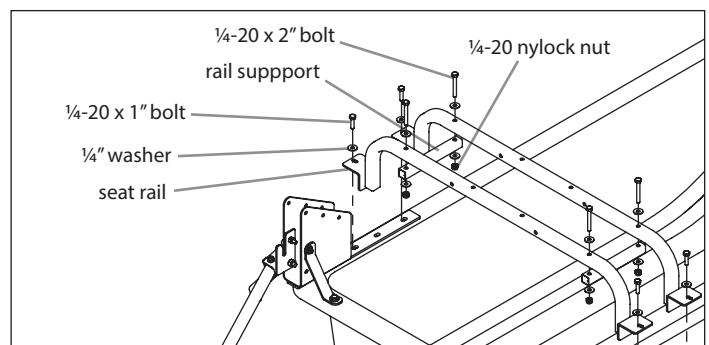

FIGURE 2
3. Attach the (2) seat rails (15033) using (4) 1/4-20 x 1" bolts, (8) 1/4" washers, and (4) 1/4-20 nylock nuts. The seat rail closest to the front of the sled will use the last slotted hole on the spacer plate (11631) that was installed in Step 1. The remaing seat rail (15033) will require the (2) support shims (11230) to keep the height between the two seat rails consistent. **SEE FIGURE 2**
4. Attach the (2) rail supports (15650) using (4) 1/4-20 x 2" bolts, (8) 1/4" washers, and (4) 1/4-20 nylock nuts. **SEE FIGURE 2**